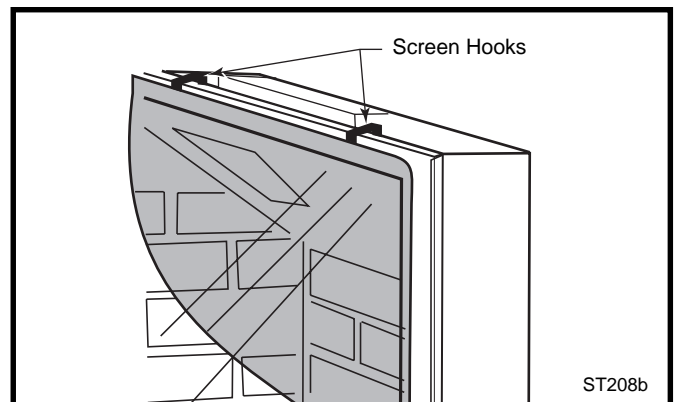

Fig. 4 Lift screen from firebox.
- Remove the screen frame. (Fig. 4)